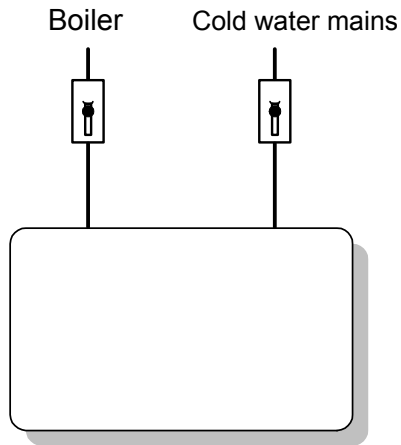

Figure 2
- Arrange the water inlet tubing as shown in the lay-out diagrams, figures 2 – 3 – 4 – 5, mounting the ball gate valves (1) at the end of the pipes (black lever = cold on the right and red lever = warm on the left).